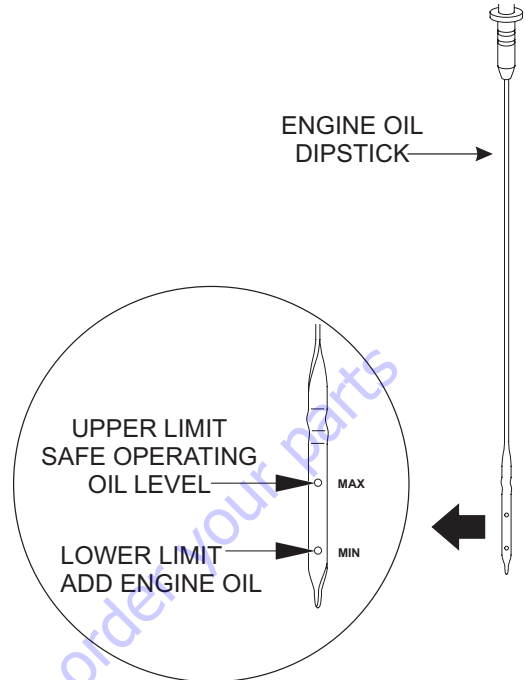

Figure 10. Engine Oil Dipstick
3. Re-Insert dipstick (Figure 10), then remove dipstick from its holder. Check the oil level shown on the dipstick.